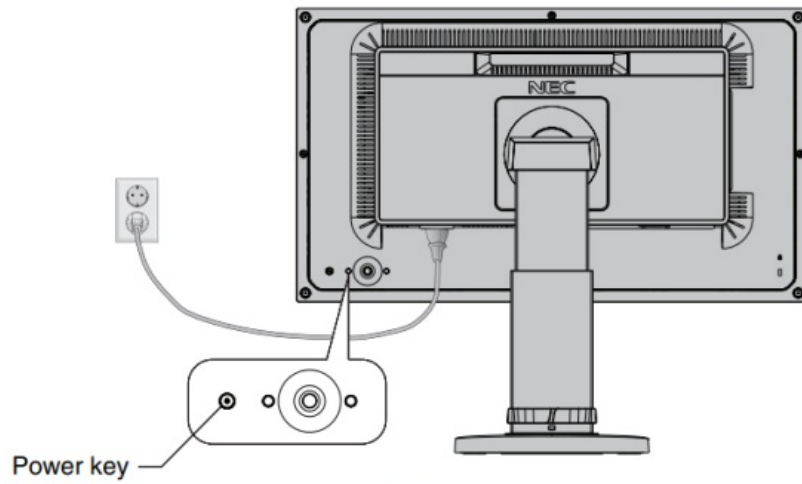

Figure E.1
9. Turn on the computer and the monitor by pressing the power button on the back of the monitor (Figure E.1).